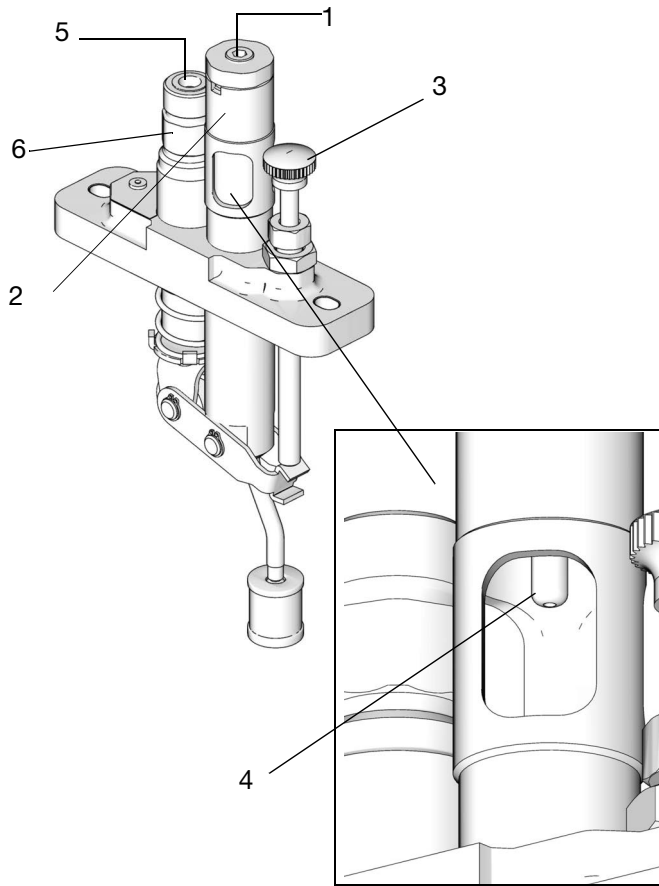

FIG. 4
Suction Fed Models (FIG. 4)
1. Remove and discard the sight well plug (1) and outlet plug (5).
2. Fill the sight well (2) to the top with appropriately filtered oil.
3. Operate the hand priming assembly (3) until the oil level drops below the end of the drip tube (4) (FIG. 4).
5. Connect fill line to sight well (2), taking care to not allow any thread sealant into the sight well.
8. Continue to hand prime until oil expelled from outlet (6) is free of air.